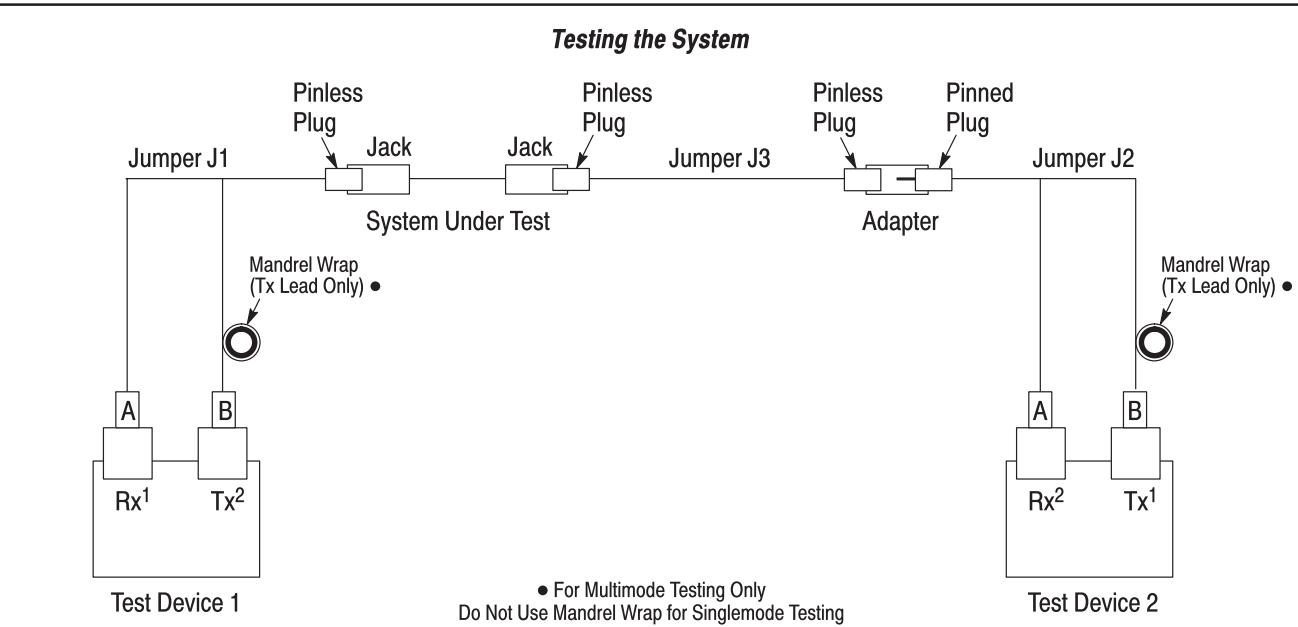

Figure 4
B. Testing the System (Figure 4)